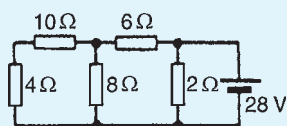

Figure 13.51
4. In the network shown in Fig. 13.51, the battery has negligible internal resistance. Find, using Thévenin's theorem, the current flowing in the $4\ \Omega$ resistor. [0.918 A]